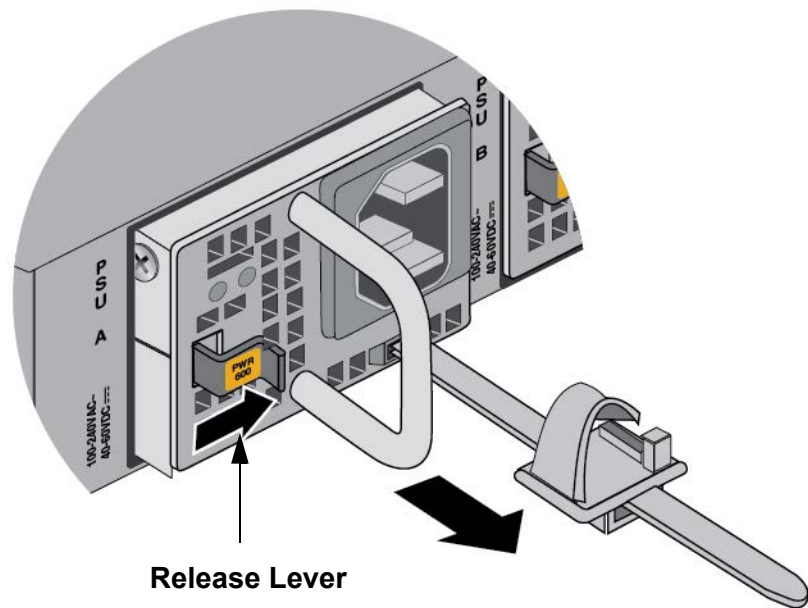

Figure 149. Removing the Power Supply
4. Press the release lever to the right and pull on the handle to release the power supply from the internal connector in the switch. Refer to Figure 149.